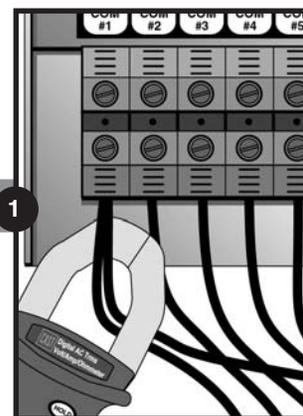

Fig. 18. Amping the common terminals.
- 1 **Amp the total load on each common terminal.** (Fig. 18.) Each common terminal has a capacity of 25 amps. If the amp reading is greater than 25 amps, redistribute the wires to spread the load evenly across the commons provided.